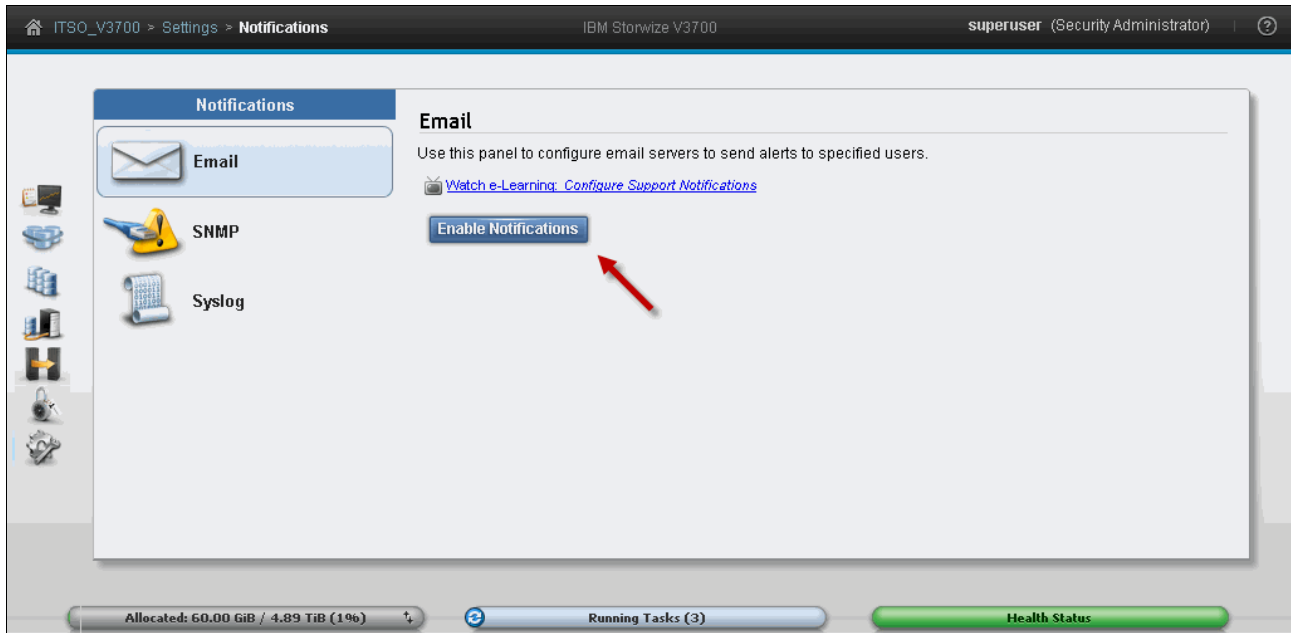

Figure 2-45 Selecting Enable Notifications
2. If your system has the Email Notification disabled, you can re-enable it by clicking **Email** → **Enable Notifications**, as shown in Figure 2-45.